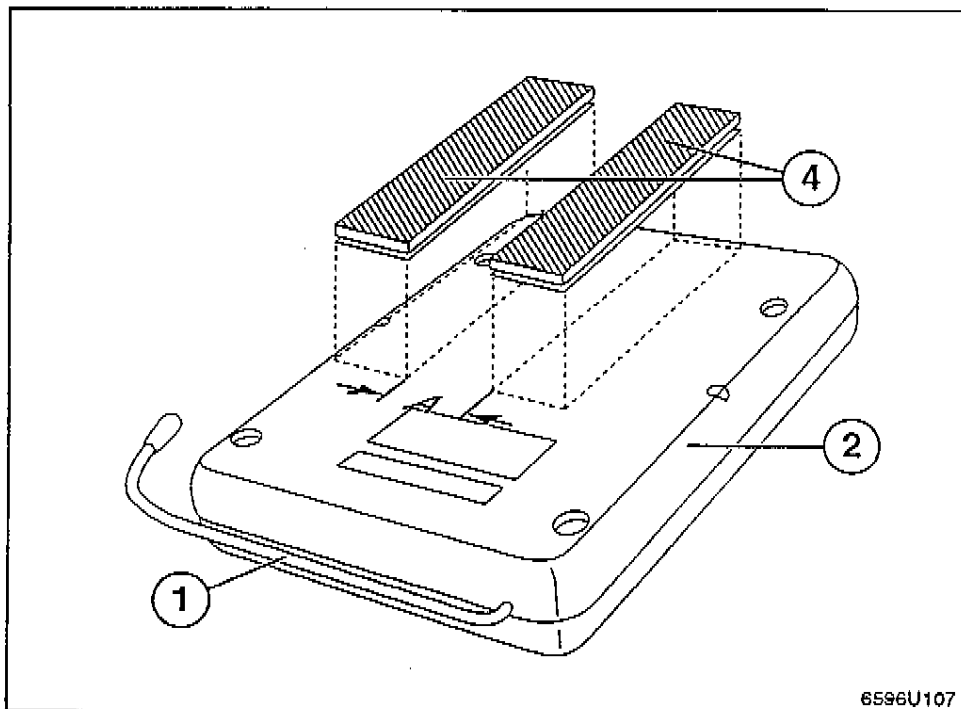

FIGURE 5
See Figure 5 . Affix velcro strips ④ onto alarm control module housing ② (side opposite microphone). Position first velcro strip at left edge of module housing. Position second velcro strip 28.5mm (1 1/8") to the right of the first velcro strip (reference dimension "A").